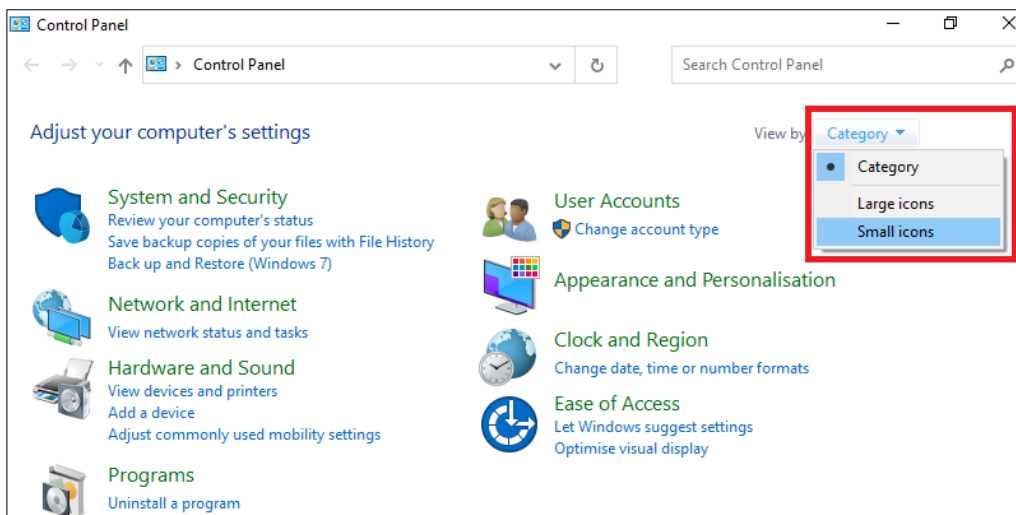

Figure 26: "Control Panel" dialogue
- 2 Switch the dialogue's interface to "Small icons" (see Fig. 26),